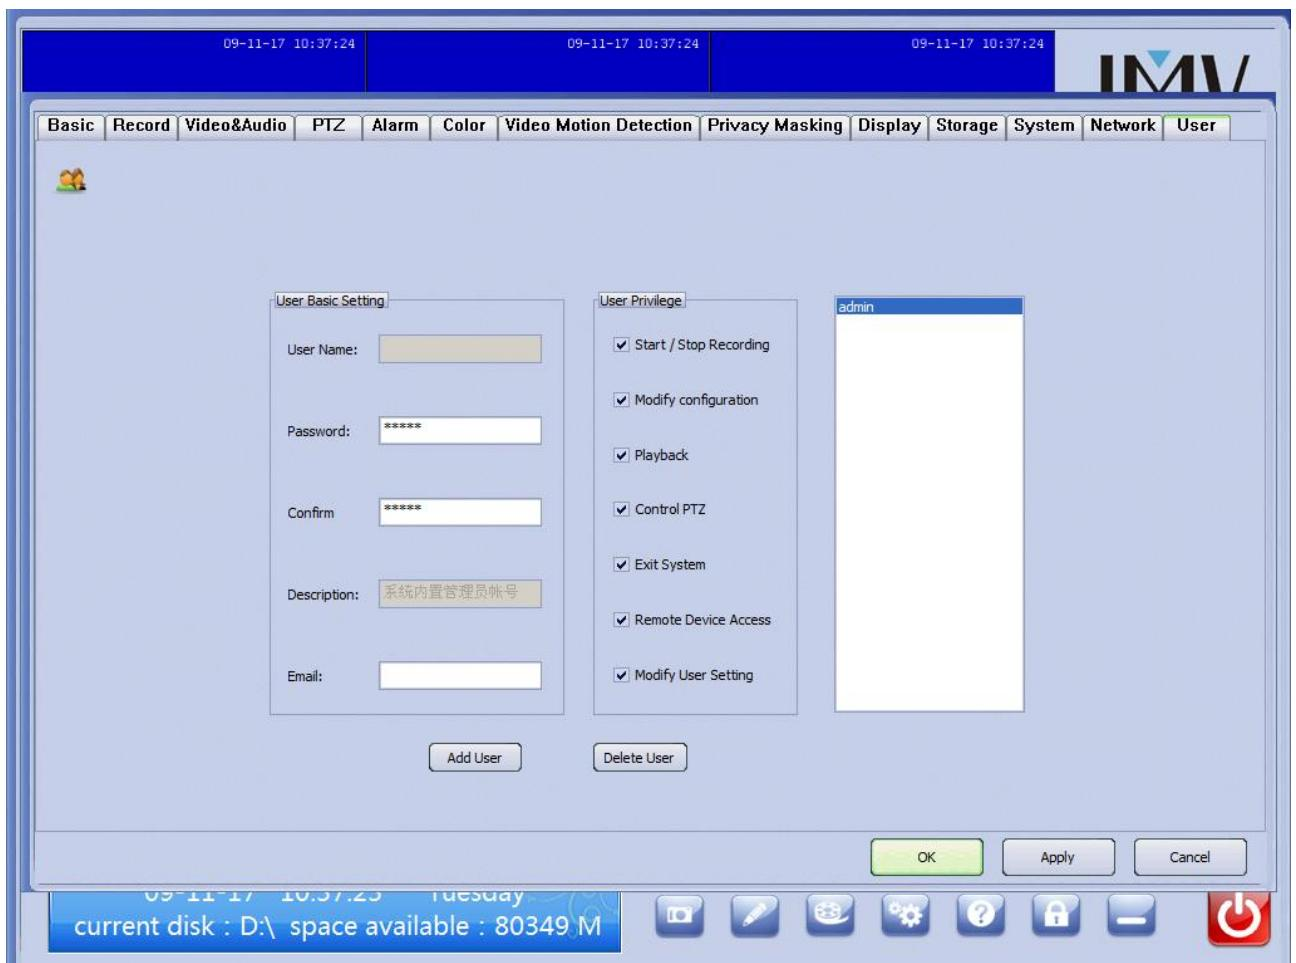

Fig. 29
3. Click “User” to open “User Setting”(fig 29):